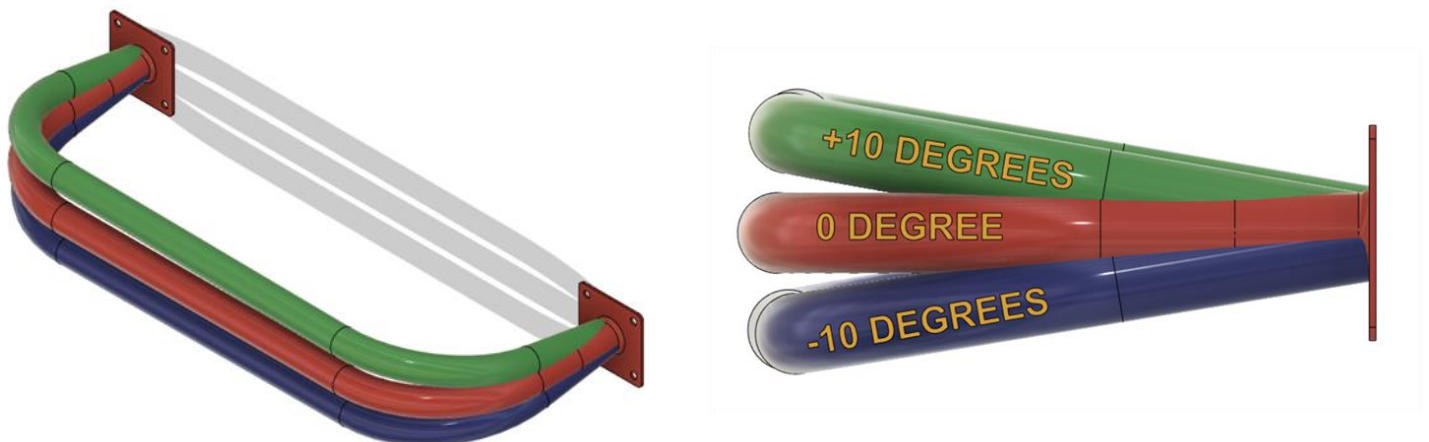

Figure 14
G. Bumper must be mounted a maximum of ± 10 degrees from 0 degree (horizontal). Refer to Figure 14